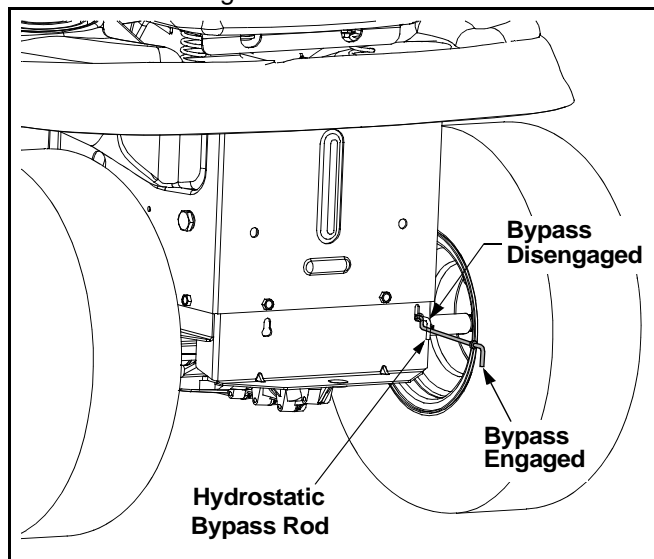

Figure 9
- Locate the hydrostatic bypass rod in the rear of the tractor. See Figure 9.